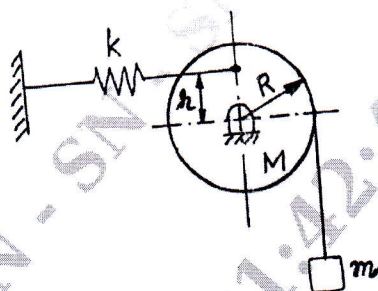

Fig.Q7(b)
- b. The mass 'm' is hanging from a chord attached to the circular homogeneous disc of mass 'M' and radius 'R' as shown in Fig.Q7(b). The disc is restrained from rotating by a spring attached at radius 'r' from the centre of the disc. If the mass is displaced downwards from the rest position, determine the frequency of oscillations. Take spring stiffness as 'k'. Use energy method.